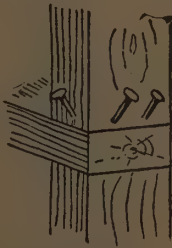

FIGURE 13
*Toe-nailing* consists in driving nails diagonally into a piece of wood. It is used in fastening the ends of uprights, as shown in Fig. 13, where the nails cannot be driven in any other way and also where there is danger of a board springing.